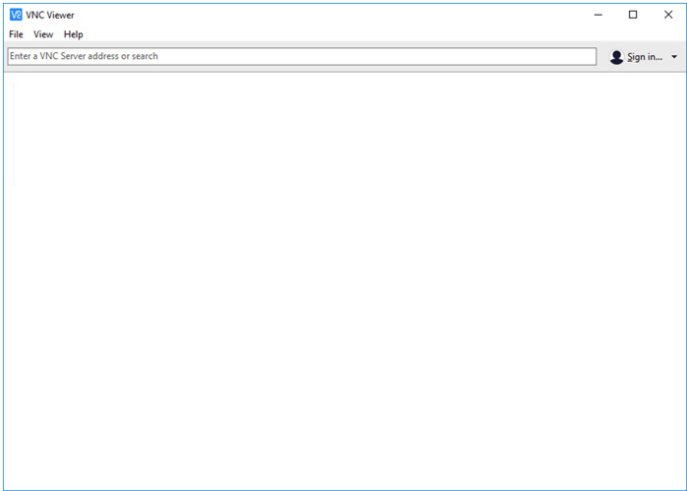

Figure 14 VNC Get Started Screen
- b. Click on the **VNC icon** to execute the application; the screen shown in Figure 14 appears.